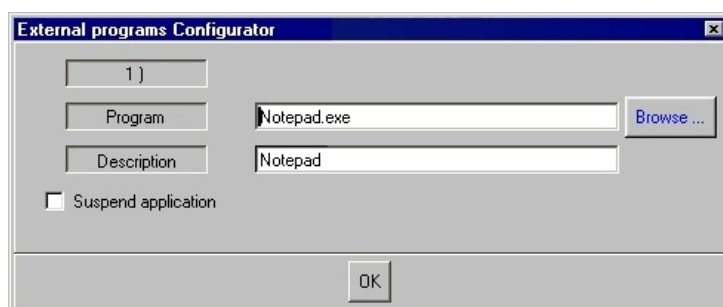

Figure 96
1. click on one of the available buttons in the left side of the window; the dialog box **External programs Configurator** appears (Figure 96).